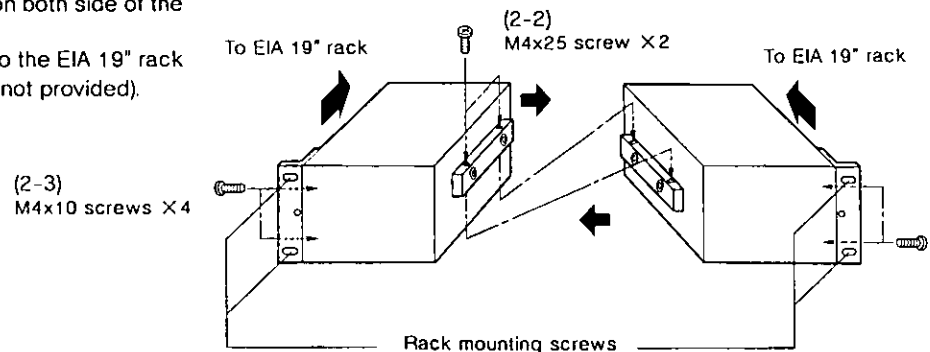

Fig. 3
- 2-2. Attach two Remote Control Units by using four screws (M4×25, provided) as shown Fig.3.
- 2-3. Fix two Rack Mounting Angles(161) on both side of the jointed Remote Control Units.